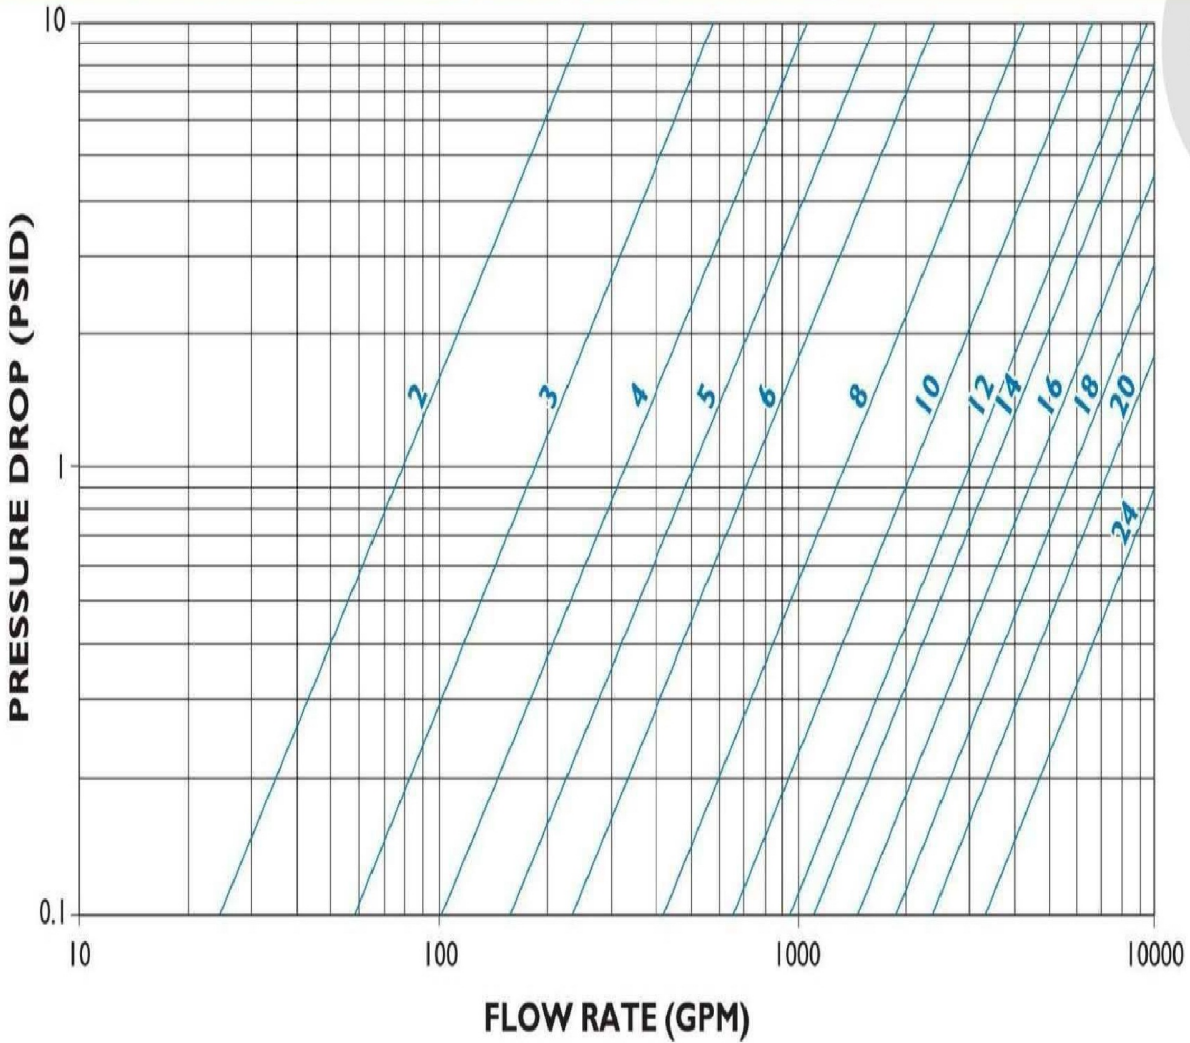

FIGURE 1
*Multiply values obtained from figure 1 thru 2 by the appropriate values shown below
- A)** Using figure 1 the pressure drop is determined to be 0.9 psig
- 1) Using figures 1 or 2 determine the pressure drop (P1) through the strainer with water flow and standard screens.
- 4) Using chart #2 multiply P3 by the appropriate Component Factor (CF) to get P4.
- 6) Multiply P4 by the appropriate Body Loss Factor (BF) in chart #3 to get P6.
* Multiply values obtained from figures 1 thru 2 and charts #1, #2 and #3 (if used) by the appropriate values shown below